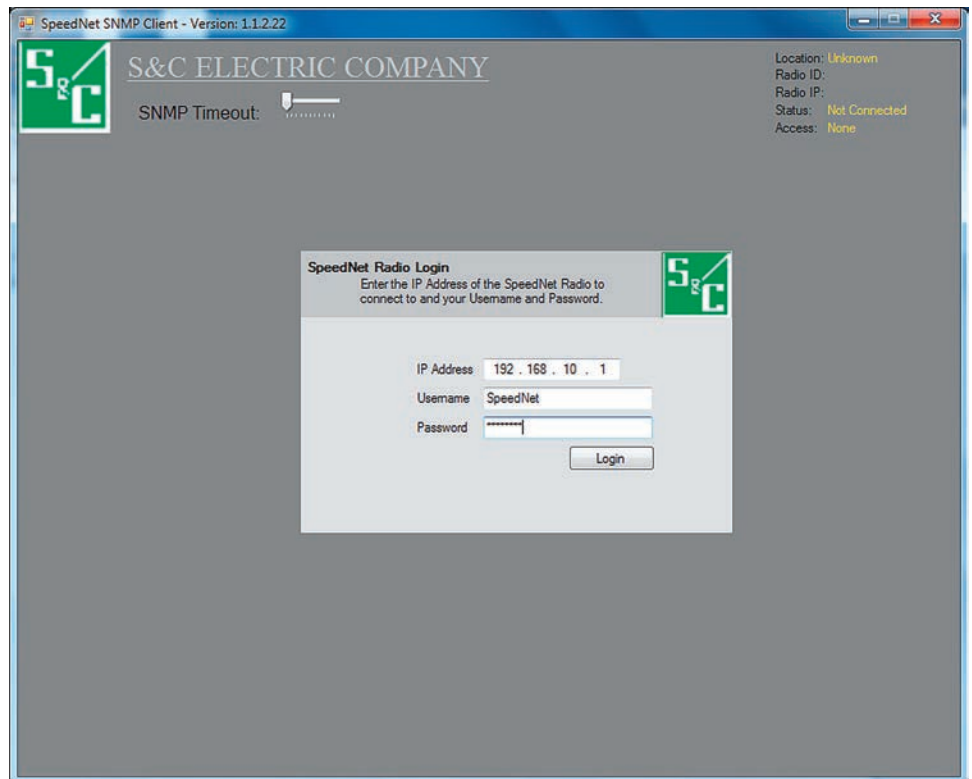

Figure 10. SpeedNet Radio login dialog box.
STEP 27. Open the Client Tool (see Figure 10) and enter: